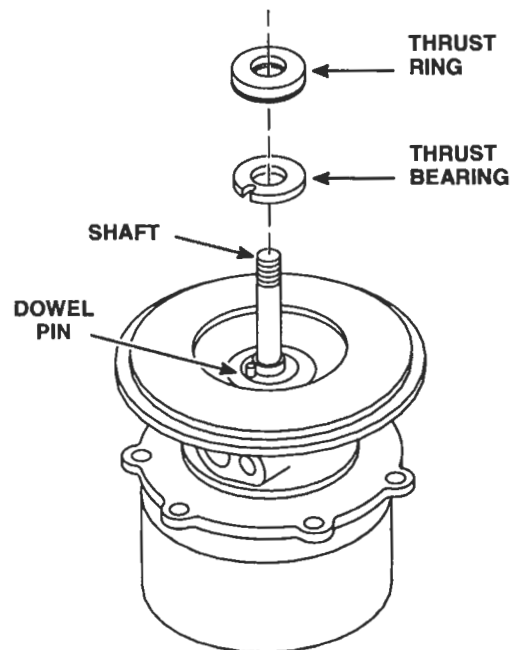

Figure 29. Thrust Ring in Center Housing Installation
7. Place the thrust collar over the end of the shaft, recess side facing up (Figure 29.) and against the backplate or thrust plate bearing.